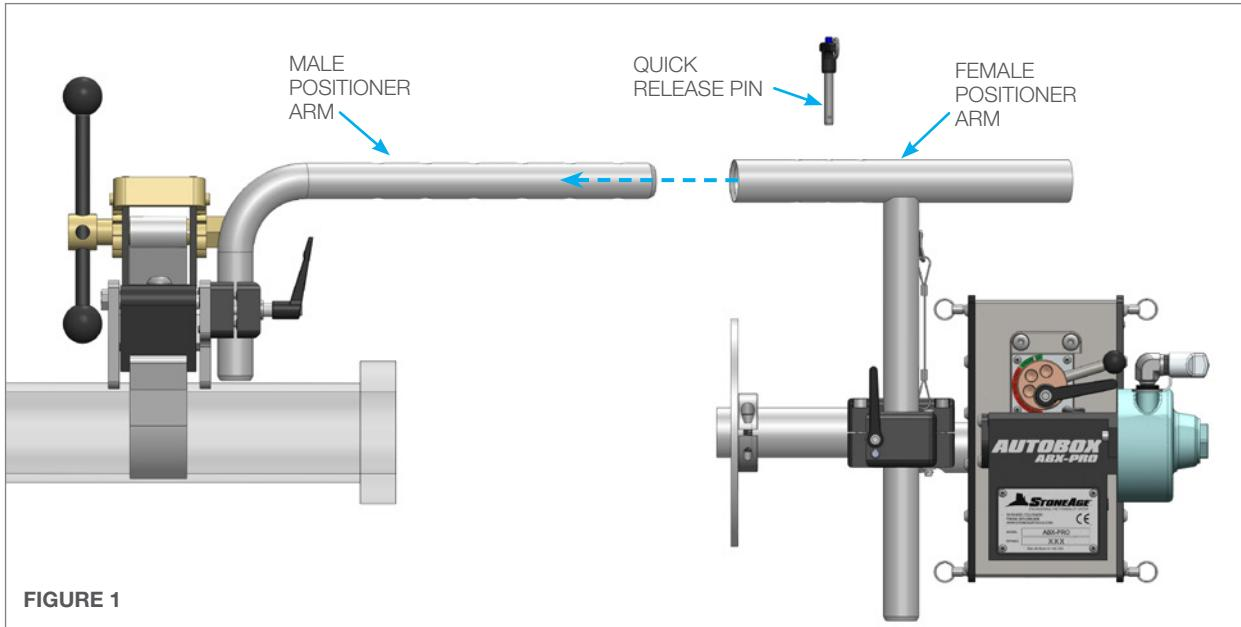

FIGURE 1
1. Slide the Female Positioner Arm onto the Male Positioner Arm. (**Figure 1**) Line up the incremental holes and push the Quick Release Pin through both positioner arms. (**Figure 1.1**)